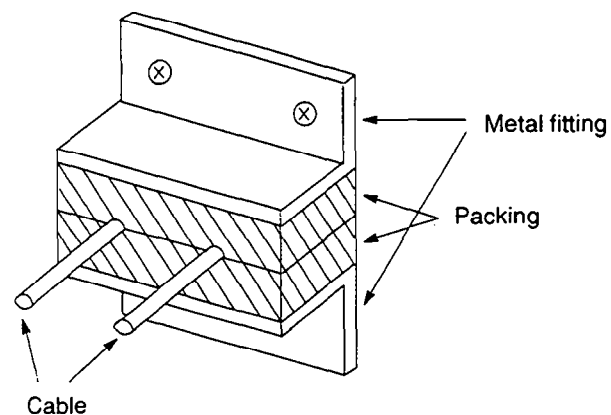

Fig.1.5 Cable Inlet
- Seal the cable inlet with packing material. (Refer to Fig.1.5.)